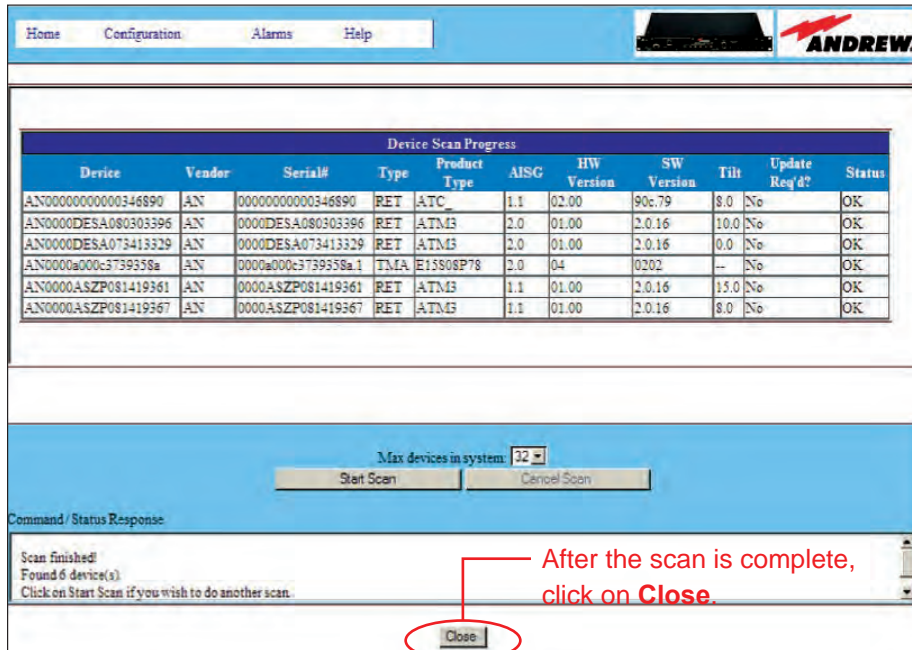

Figure 11-3. Closing Device Search Results Screen.
- After the device search is complete, click on **Close** to return to the controller's main interface screen (Figure 11-3).